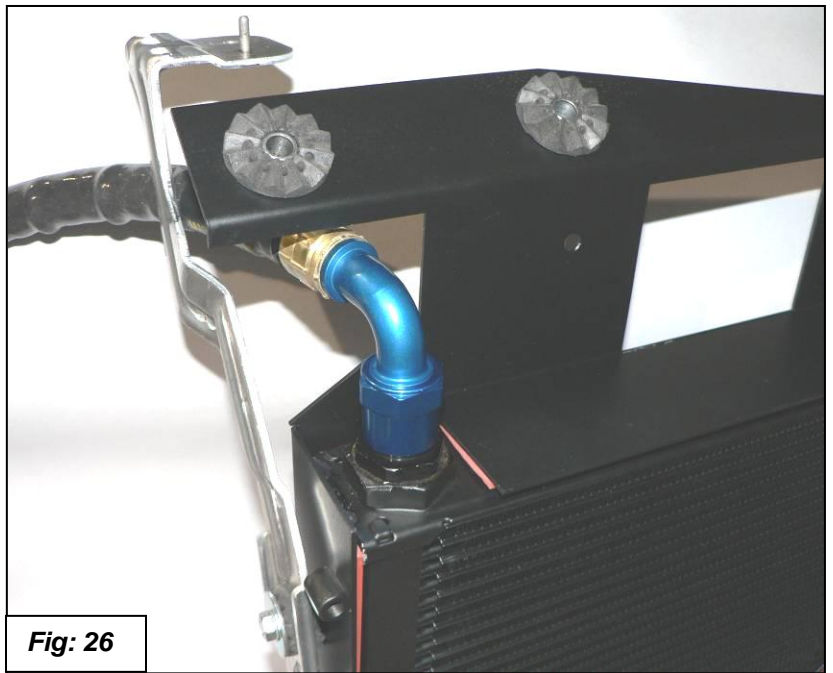

Fig: 26
27. Loosely install the oil line with the 90° fittings on each end. One end has a swivel and one end doesn't. Install the end without the swivel onto the topside of the oil cooler. Do not tighten yet. See figure 26.